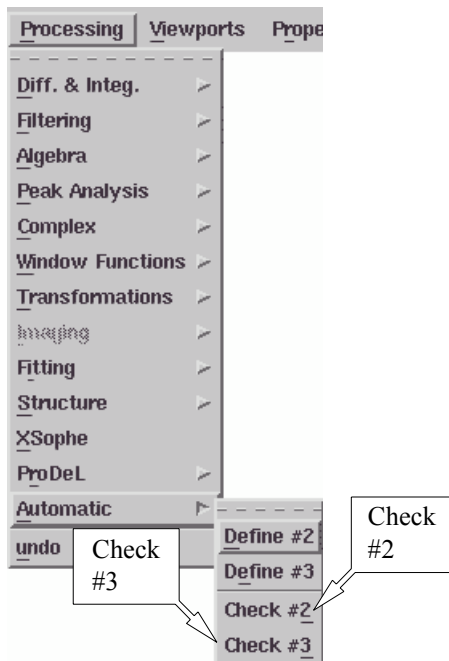

Figure 9-10 Checking the Auto #2 and/or Auto #3 routines.
6. **Check the auto post-processing routines.** Load a spectrum into the Primary Dataset. Click Processing > Automatic > Check #2 or Check #3 to see if the Auto #2 or Auto #3 routines function properly. If you called Auto #3 from Auto #2, both auto post-processing routines will be checked when you click Check #2. Otherwise they must be checked independently. (See Figure 9-10.)